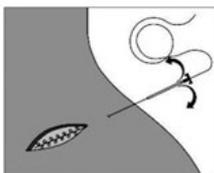

Figure 16
6. While holding the edge of the catheter, pull the introducer's T-handle all the way off the skin and peel it off the catheter (See figure 16).